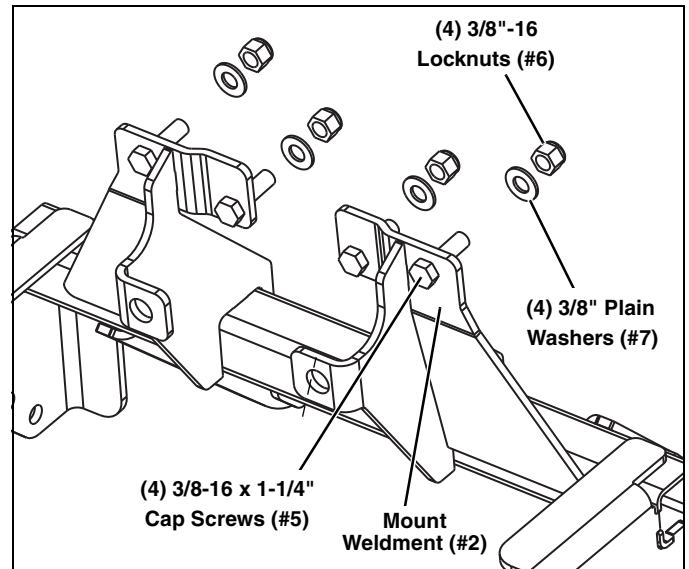

Figure 5
- Insert (4) 3/8"-16 x 1-1/4" Cap Screws (#5) through the top 4 holes of the Mount Weldment (#2), Brush Guard, and UTV frame. Secure in place with (4) 3/8" Plain Washers (#7) and (4) 3/8"-16 Locknuts (#6). (See Figure 5.)